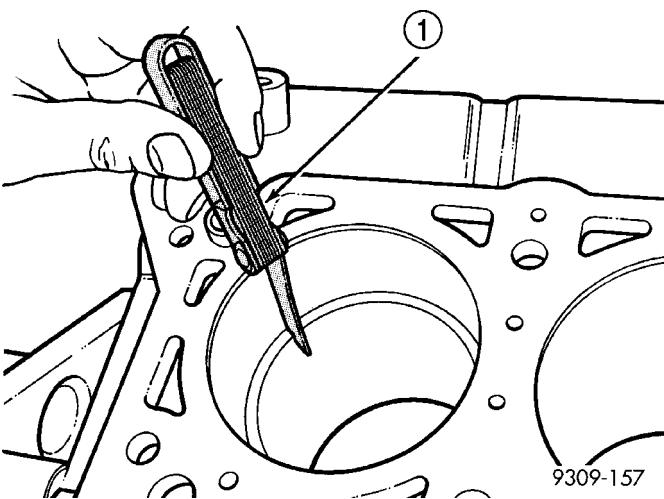

Fig. 62 Piston Ring Gap
(1) Wipe cylinder bore clean. Insert the ring and push down with piston to ensure squareness in bore to approximately 12 mm (0.50 in.) from top of cylinder bore. Check ring gap with a feeler gauge (Fig. 62). For clearance specification (Refer to 9 - ENGINE - SPECIFICATIONS).